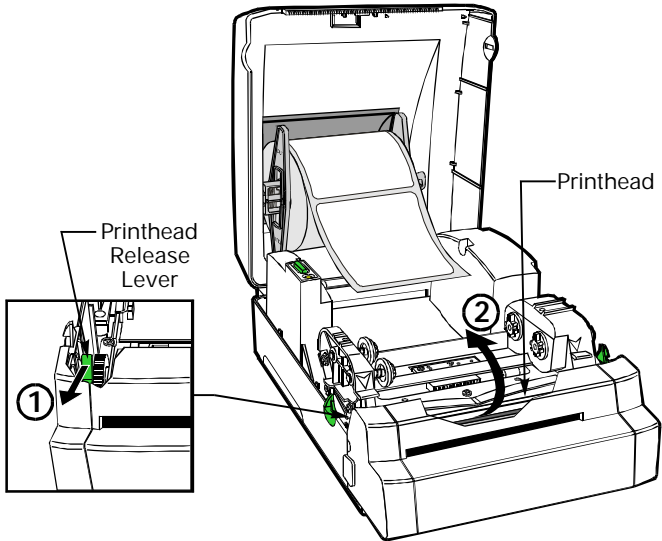

Figure 20
5. Place the media roll in the top cover (refer to Figure 20).
6. Release the printhead by pulling the printhead release lever toward you (refer to Figure 20, “1”).
7. Lift the printhead (refer to Figure 20, “2”) until you feel it “lock” into place. Be careful not to force the printhead past this position!